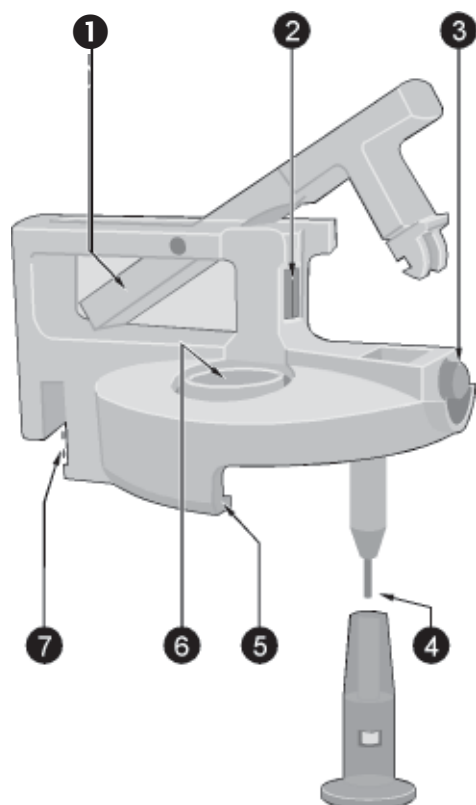

Fig. 4. Lid system
The lid system must seal the collection jar tight to allow the vacuum to build up inside. Fig. 4 shows the lid system with the locking bow open.
\* Slide the lid system onto the collection jar as shown in Fig. 5, taking care that the rim of the lid (❺, Fig. 4) is placed below the rim of the jar, and press down the locking bow until you hear it click into place.